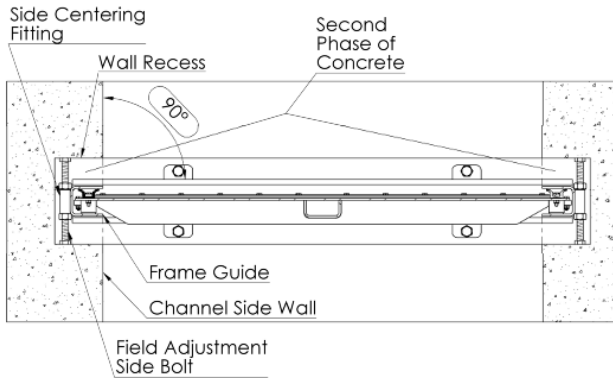

Figure 4
- Align the unit horizontally and make sure that the Frame Guide is flush with the channel side wall. Additionally, make sure that the gate is perpendicular to the side walls of the channel. Adjust the bolts on the "Lateral Centering Fittings" if applicable (see Figure 4)